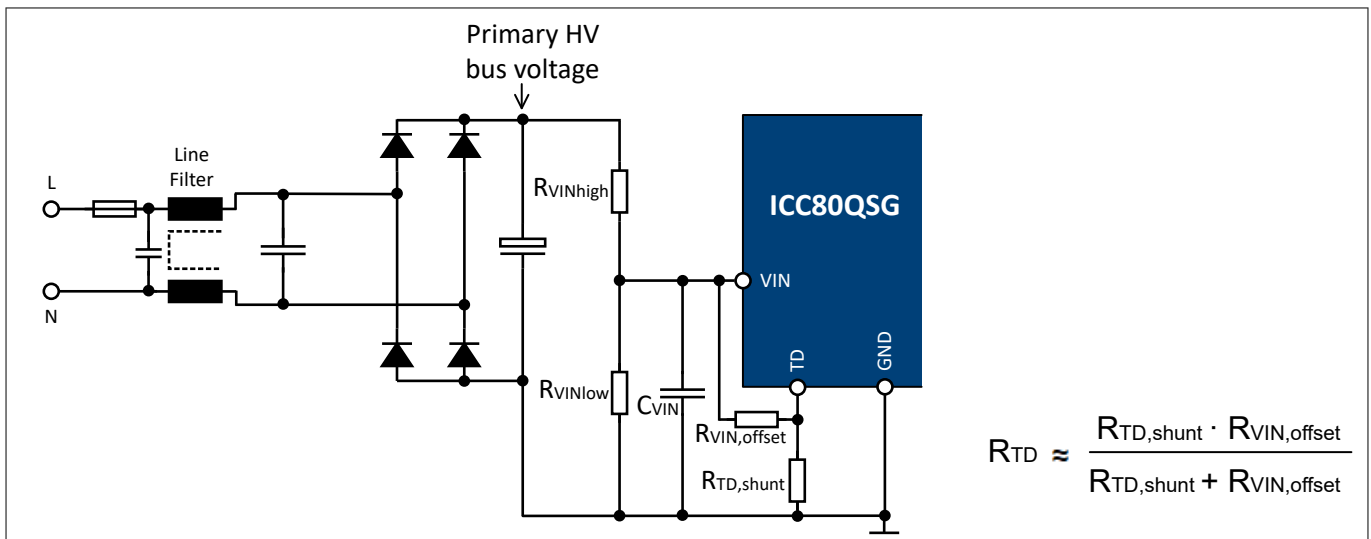
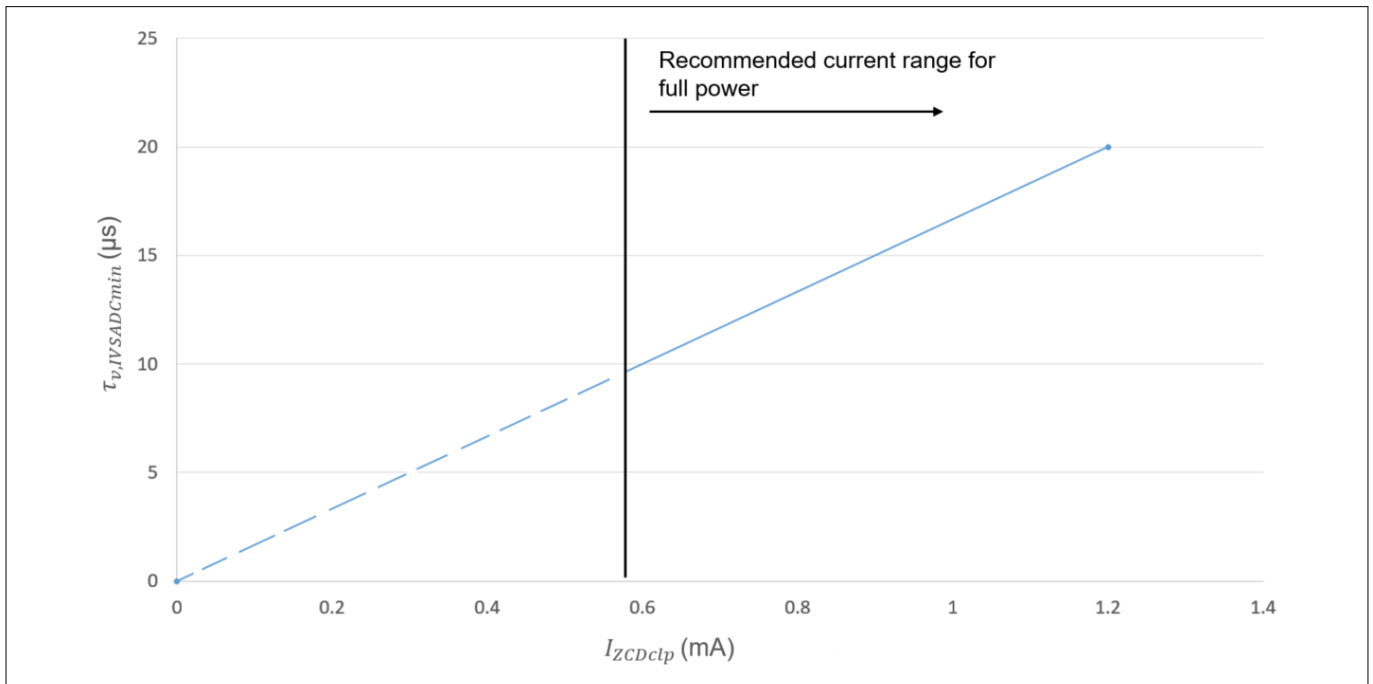
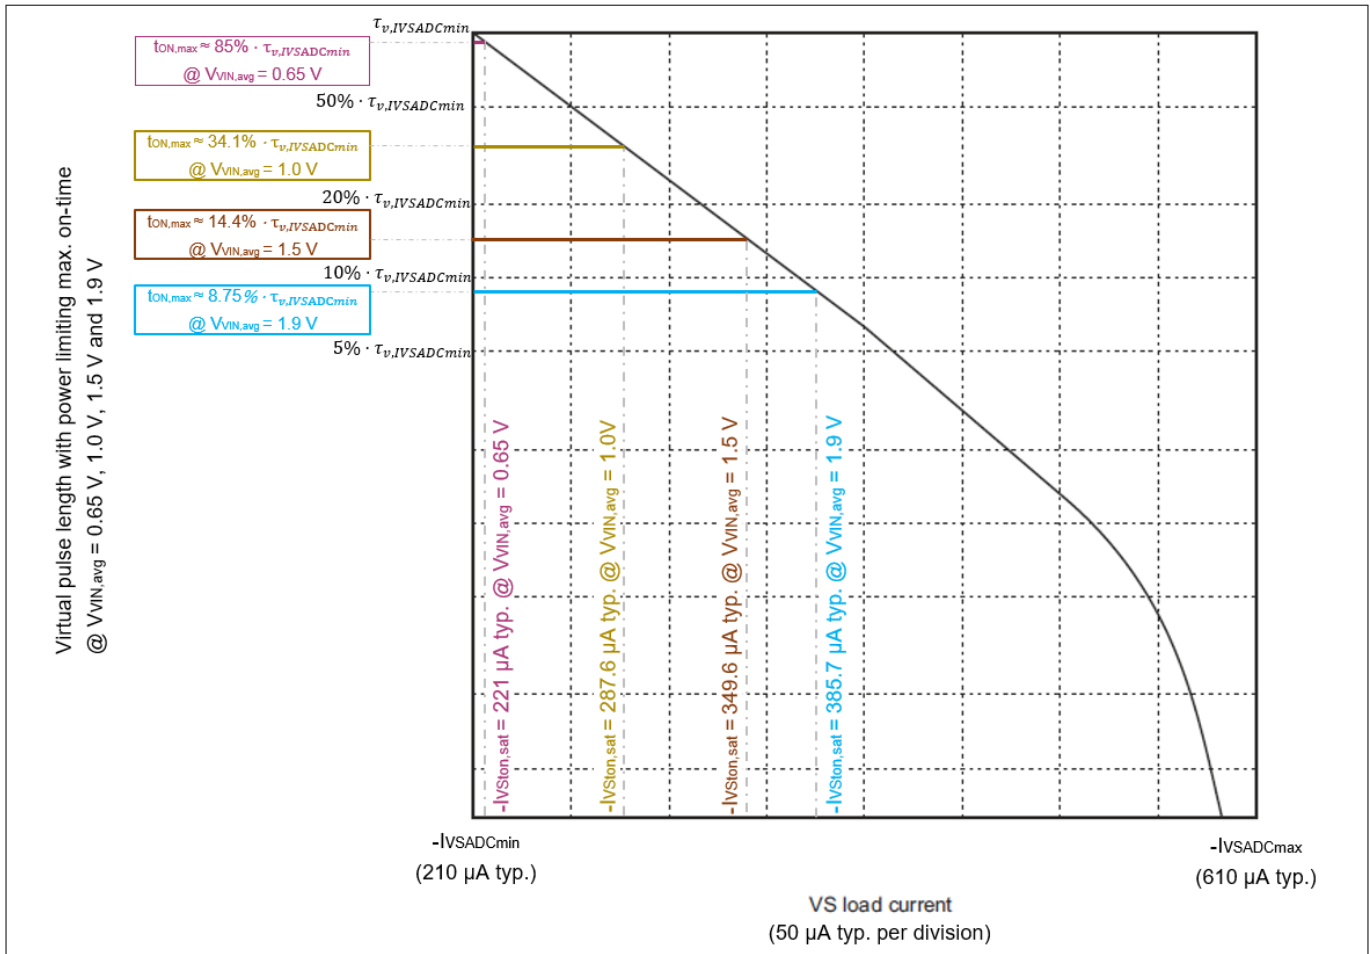

Figure 5 V_{IN} pin circuit
Figure 12 Virtual pulse length at $I_{VSADCmin}$, $\tau_{v,IVSADCmin}$ versus ZCD peak to peak settled clamping current, I_{ZCDclp}
Figure 13 Virtual pulse length mapping with power limiting maximum on-time effect
At higher power transfer, the primary bus voltage ripple is higher, and $V_{VIN,avg}$ becomes lower. As a result, a relatively higher AC input brownout protection level can be triggered at higher power transfer, to better protect the primary components from overheating and saturation in case of input under-voltage condition occurs. Apart from that, the hysteresis between AC input brownin and brownout level can be added externally with $R_{VIN,offset}$, as shown in Figure 5. It works by creating an offset voltage on the V_{IN} pin when the TD pin internal pull-up is enabled in RUN state.
When the $R_{VIN,offset}$ is connected between TD pin and V_{IN} pin, R_{TD} can be approximated based on the equation shown in Figure 5. The R_{TD} detected in the pre-start-up phase must be designed to be at least 27 kΩ when TD pin is internally pulled up by $R_{TD,RUN}$, and not more than 68 kΩ when TD pin is internally pulled up by $R_{TD,flyback}$, to activate the VS pin load current sensing for output regulation and stay within the TD configuration limit.
Based on Equation 4, the equation for R_{TD} approximation in Figure 5 can be derived, when a resistor $R_{VIN,offset}$ is added between VIN pin and TD pin to configure the brownin and brownout hysteresis.
1. Based on $I_{ZCDclp} = 1.2 \text{ mA}$, obtain $\tau_{v,IVSADCmin} = 20 \mu\text{s}$ from Figure 12.
For $t_{ON,max}$ estimation, it is important to note that $\tau_{v,IVSADCmin}$ changes with different $V_{VIN,avg}$ level, when the input voltage detection circuit in Figure 5 is applied. This is because $\tau_{v,IVSADCmin}$ is scaled depending on I_{ZCDclp} in Figure 12, while I_{ZCDclp} is dependent on the input voltage, as explained in ZCD pin signal sensing.
Figure 13 shows the virtual pulse length with the power limiting maximum on-time effect, when $V_{VIN,avg}$ is 0.65 V, 1.0 V, 1.5 V and 1.9 V, respectively.
When $V_{VIN,avg}$ is at the brownin level ($V_{BI} = 0.647\text{ V typ.}$), the power limitation is enabled with $t_{ON,max} = \text{approx. } 85\%$ of $\tau_{v,IVSADCmin}$, as shown in Figure 13. For example, if the desired $t_{ON,max}$ at brownin level is $17\ \mu\text{s typ.}$, it is necessary to have $\tau_{v,IVSADCmin} = 17\ \mu\text{s} / 85\% = 20\ \mu\text{s}$. And, according to Figure 12, $\tau_{v,IVSADCmin} = 20\ \mu\text{s}$ is obtained when $I_{ZCDclp} = 1.2\ \text{mA}$ is applied. As a result, to achieve $t_{ON,max} = 17\ \mu\text{s typ.}$ at brownin level, R_{ZCD} should be dimensioned to produce $I_{ZCDclp} = 1.2\ \text{mA typ.}$ at brownin level.